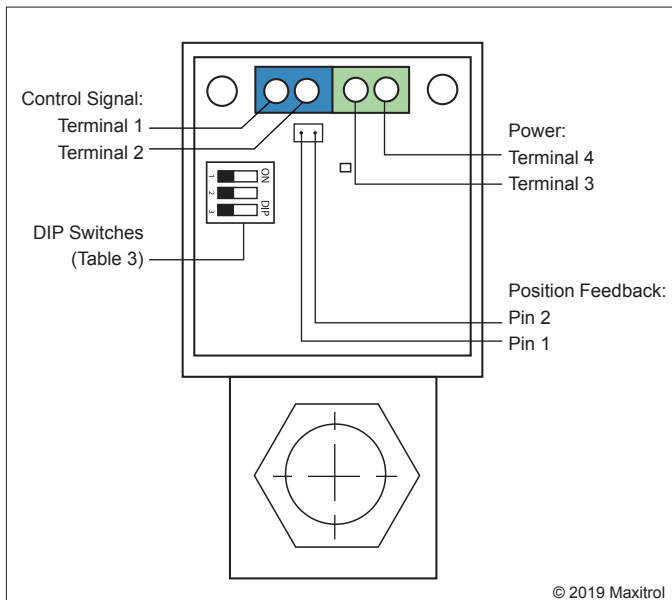

Figure 2: EXA Modulating Valve Series Connections
There are six (6) electrical connections on the EXA valve. Two (2) are for power, two (2) are for the control signal, and two (2) are for position feedback (see figure 2, page 2).
A three (3) position DIP switch is located on the PCB (see Figure 2). Change the signal type and offset by changing the position of DIP switches. (For DIP switch position and corresponding current/voltage ranges, see Table 3).
- Step 3: Connect switched OFF 24V (AC/DC) power source to terminals 3 and 4. Note polarity when using a DC power source or if one leg of an AC transformer secondary is externally grounded or is sharing power with another half-wave device (see figure 2, page 2).
- Step 5: Connect control signal to terminals 1 and 2. Observe polarity. Note that the return, or signal ground, must be connected to terminal 2 (see figure 2, page 2).